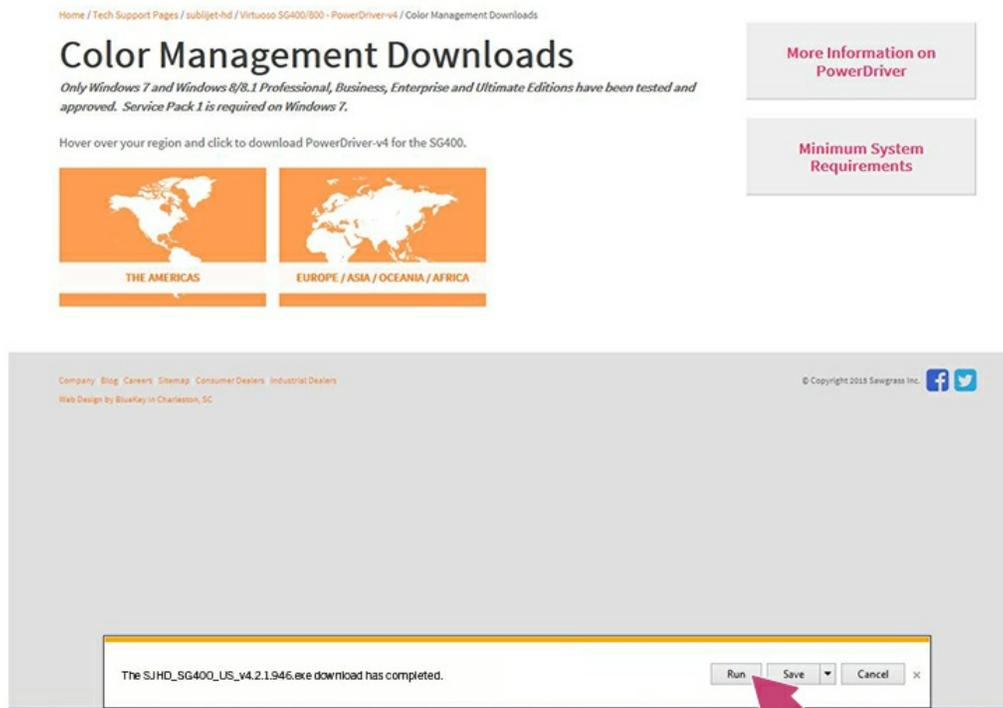

FIGURE 4
- The file will begin downloading into the Downloads folder on your computer. When complete, the download message at the bottom of the screen will give you the option to **Run**, **Open** or **View downloads**. Click **Run**. See Figure 4.